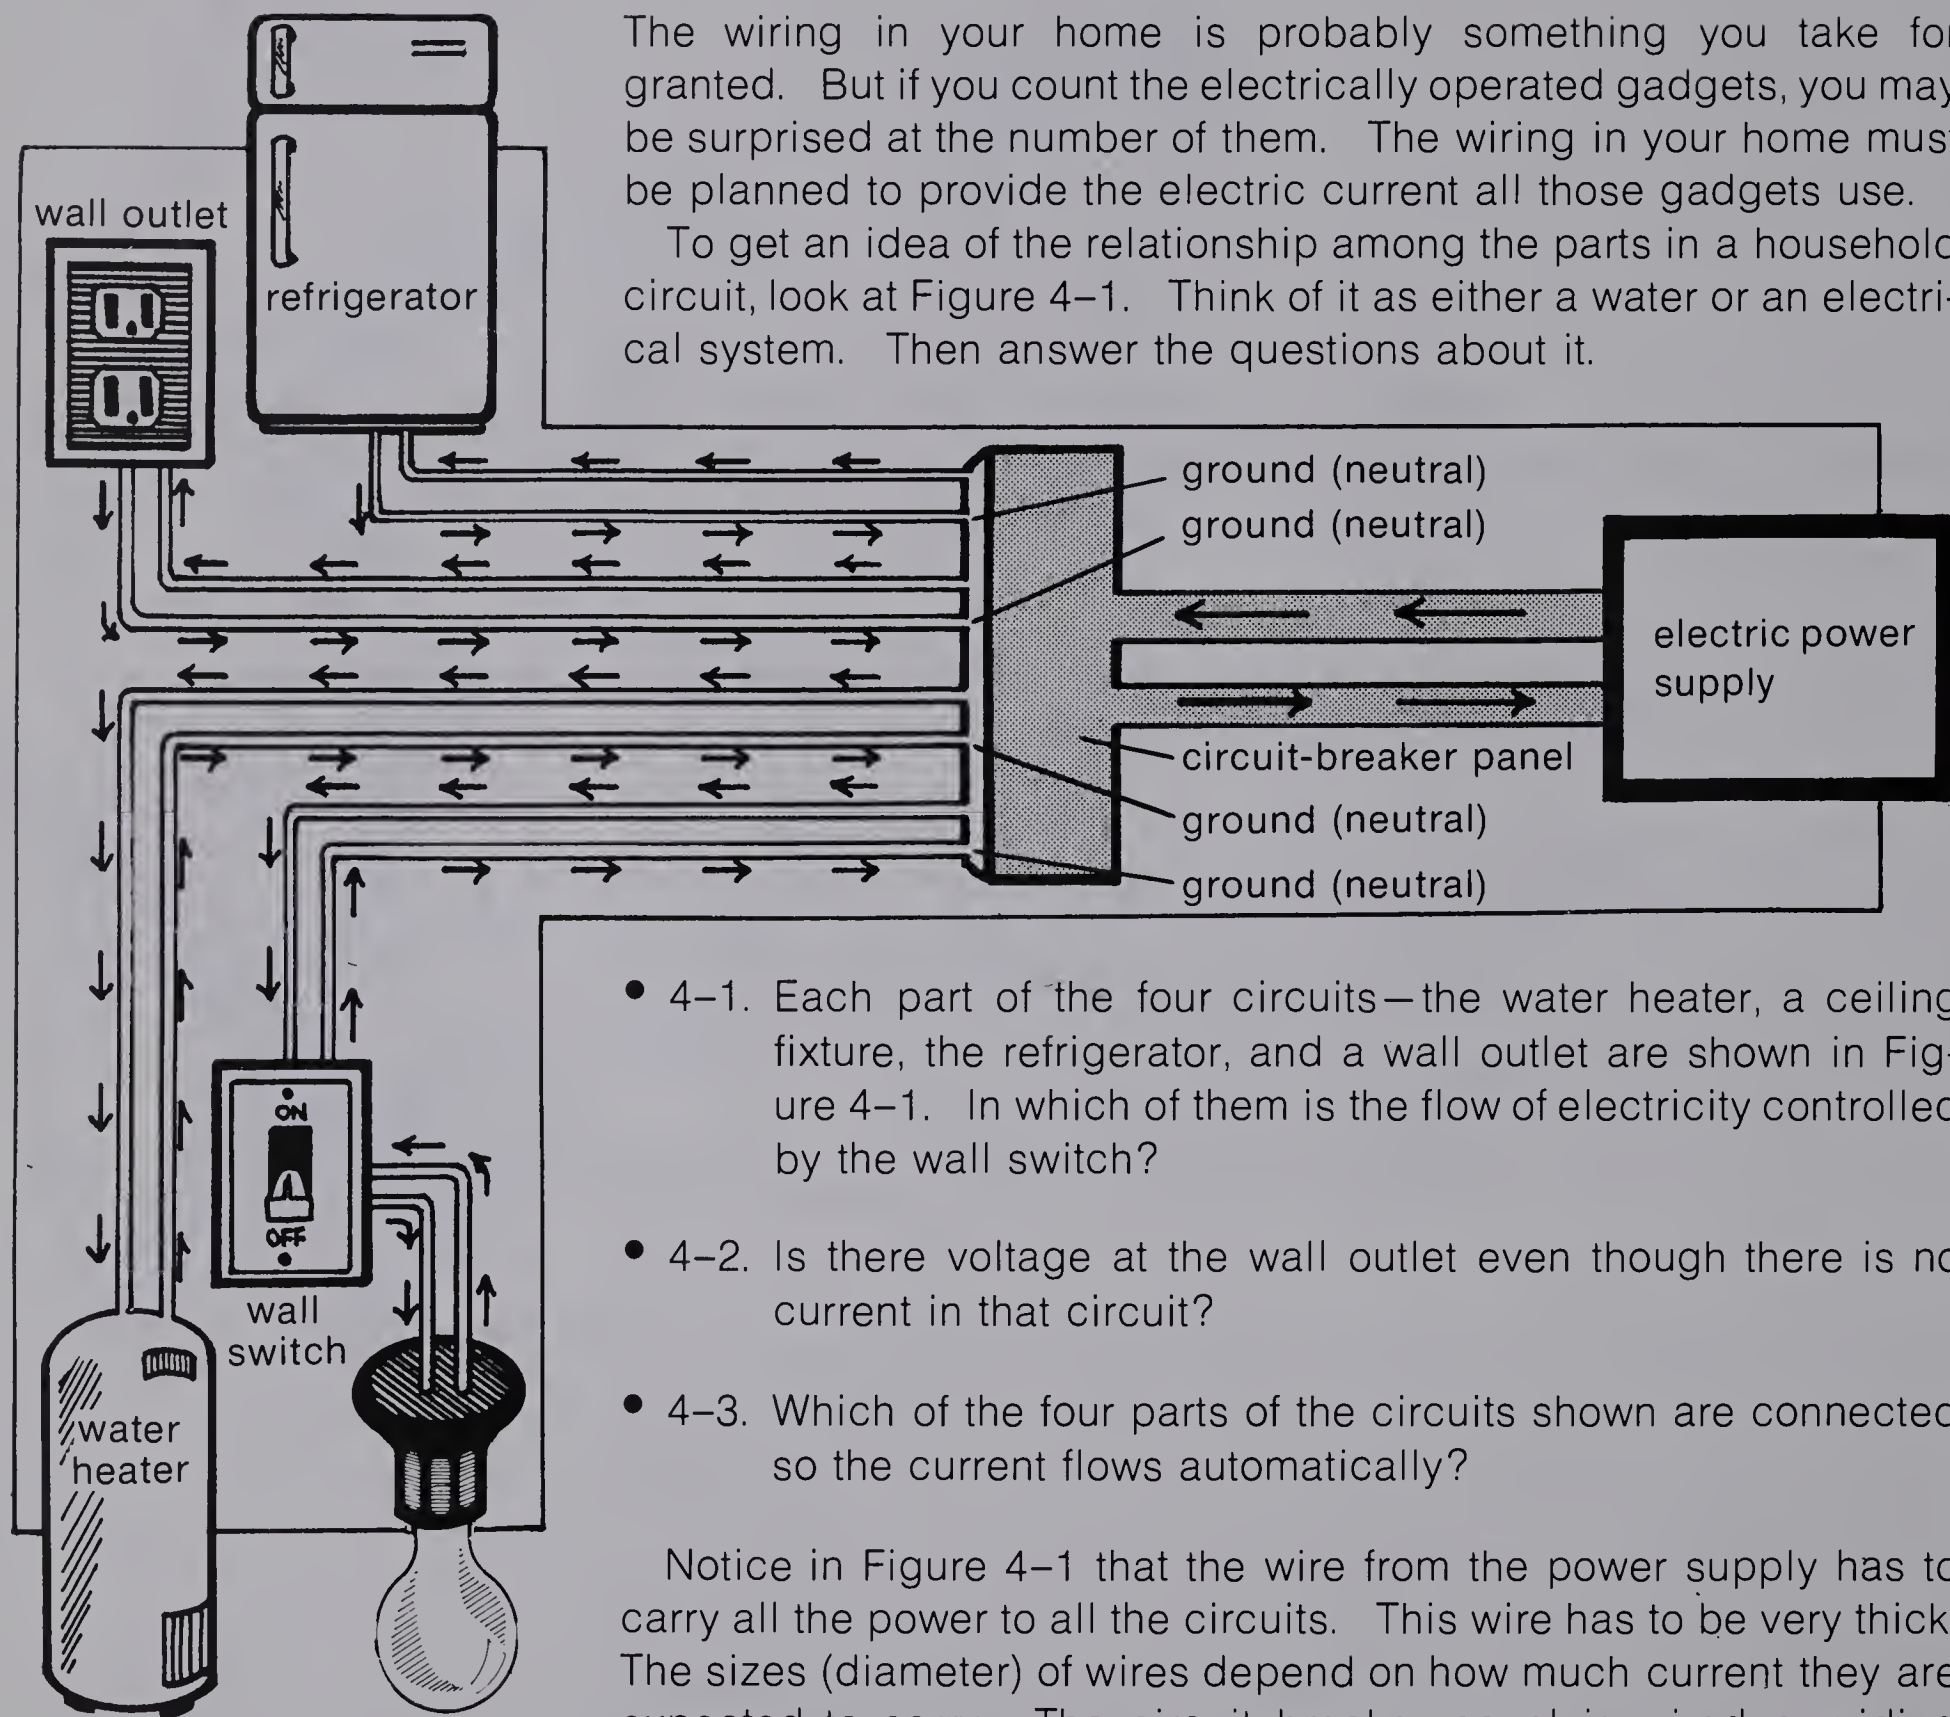

Figure 4-1
To get an idea of the relationship among the parts in a household circuit, look at Figure 4-1. Think of it as either a water or an electrical system. Then answer the questions about it.
- 4-1. Each part of the four circuits—the water heater, a ceiling fixture, the refrigerator, and a wall outlet are shown in Figure 4-1. In which of them is the flow of electricity controlled by the wall switch?
Notice in Figure 4-1 that the wire from the power supply has to carry all the power to all the circuits. This wire has to be very thick. The sizes (diameter) of wires depend on how much current they are expected to carry. The circuit breaker panel is wired providing power to all circuit branches. Each branch has its own fuse or circuit breaker. These fuses or circuit breakers protect the circuit from getting too much current.